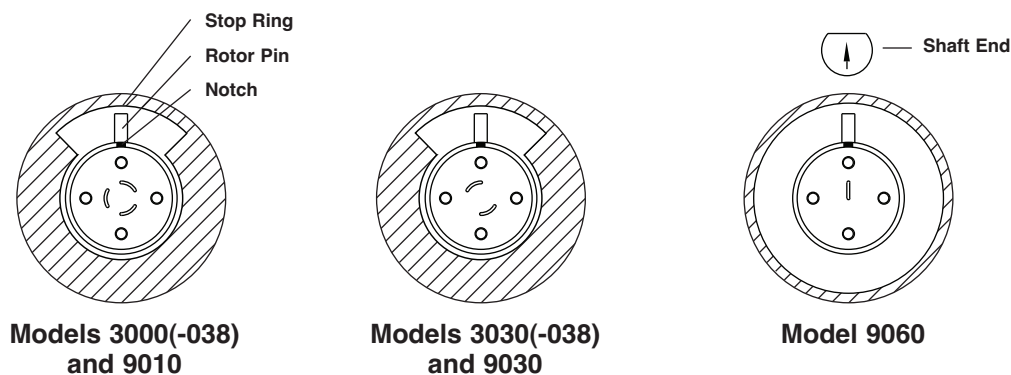

Fig. 9. Correct rotor seal orientation as viewed from the stator.
b) Orient the new rotor seal as shown in Figure 9. For six-position valves, orient the rotor seal on the rotor relative to the arrow on the shaft. The rotor seal grooves face the stator.